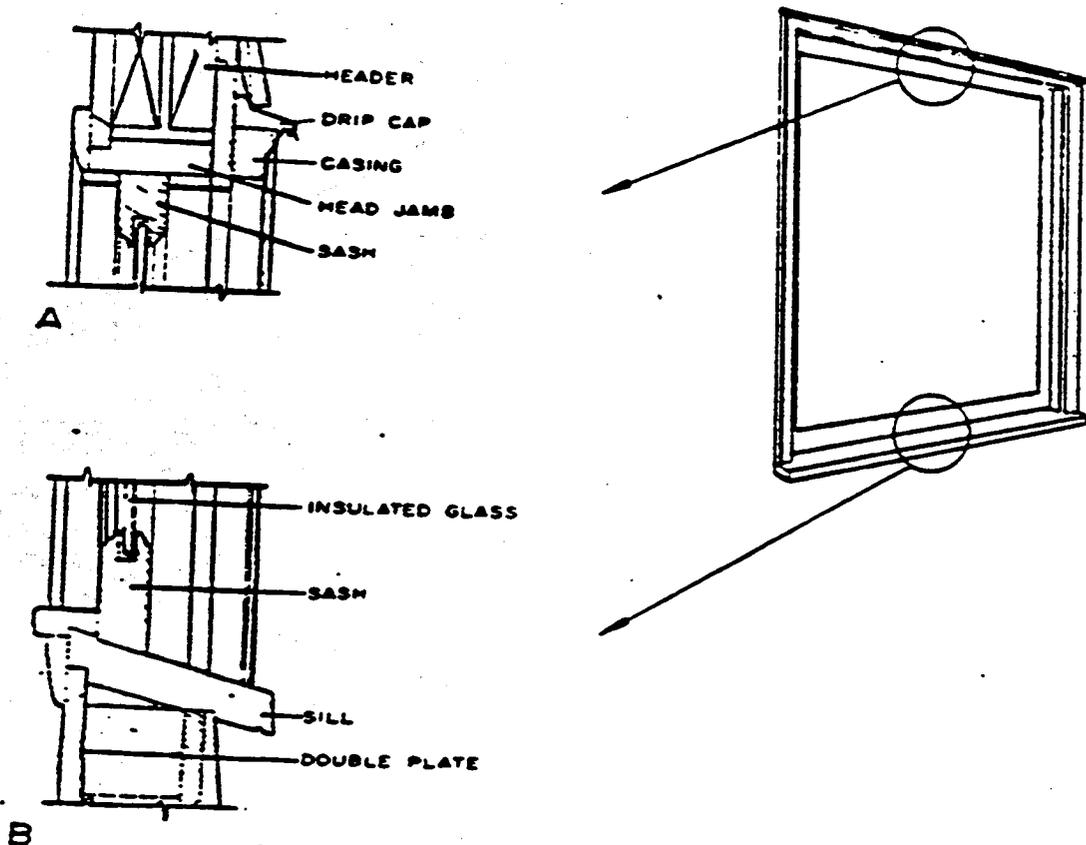

Fig 3-30. Stationary window details.
o Stationary windows. Stationary windows used alone or in combination with double-hung or casement windows usually consist of a wood sash with a large single light of insulated glass. A stationary window with two (2) detail views is shown in figure 3-30. View A shows a section view of the head, and view B shows a section view of the sill.